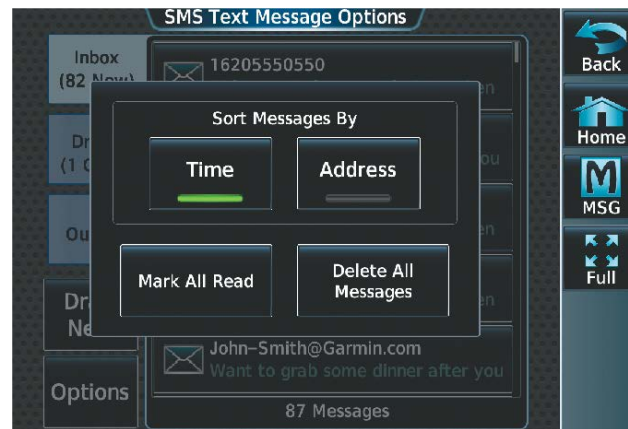

Figure 8-92 Message Sort Options
- 2) Touch the **Options** Button. The 'Sort Messages By' selections are displayed as in Figure 8-92.
- 2) Touch the **Options** Button. The selection buttons are displayed as in Figure 8-92.